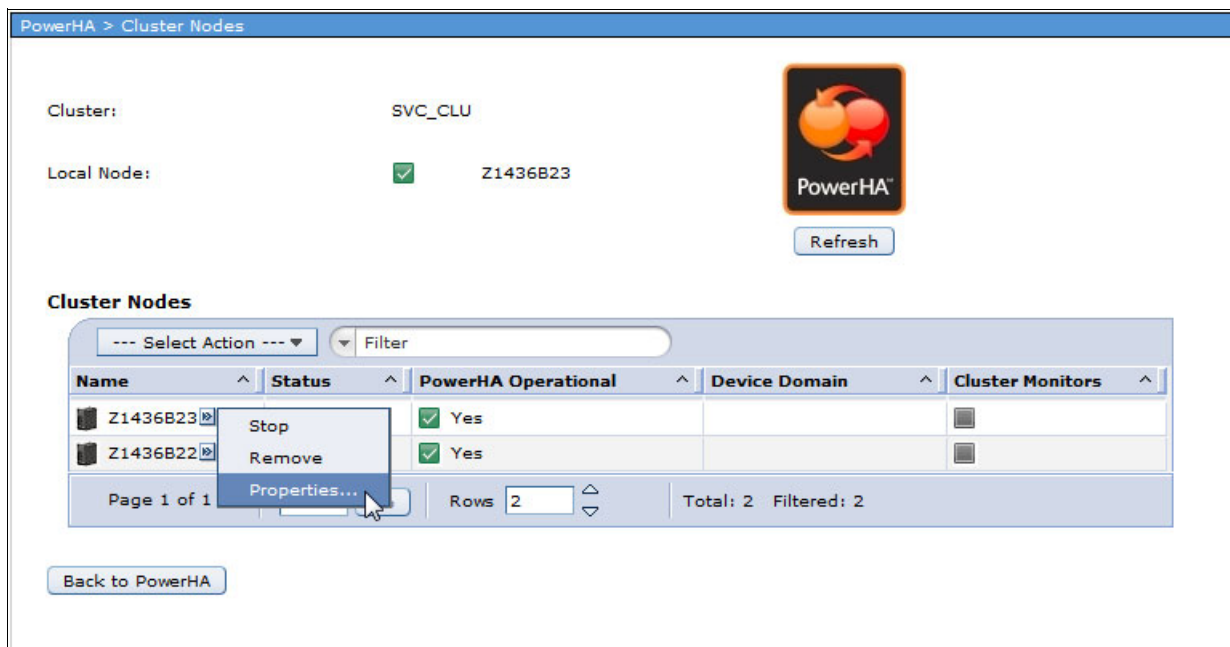

Figure 4-17 Node properties selection
14. Right-click each node in the cluster and select **Properties**, as shown in Figure 4-17.